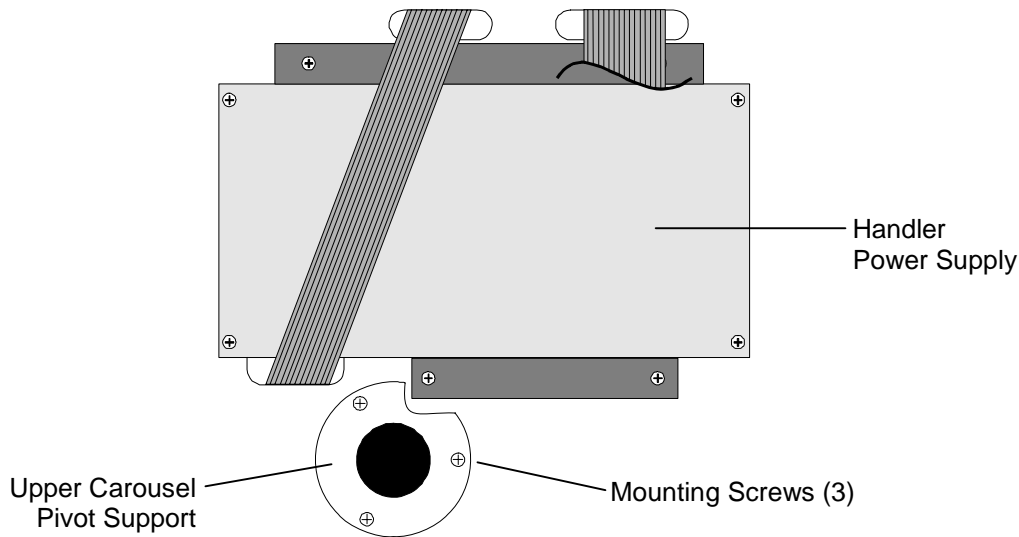
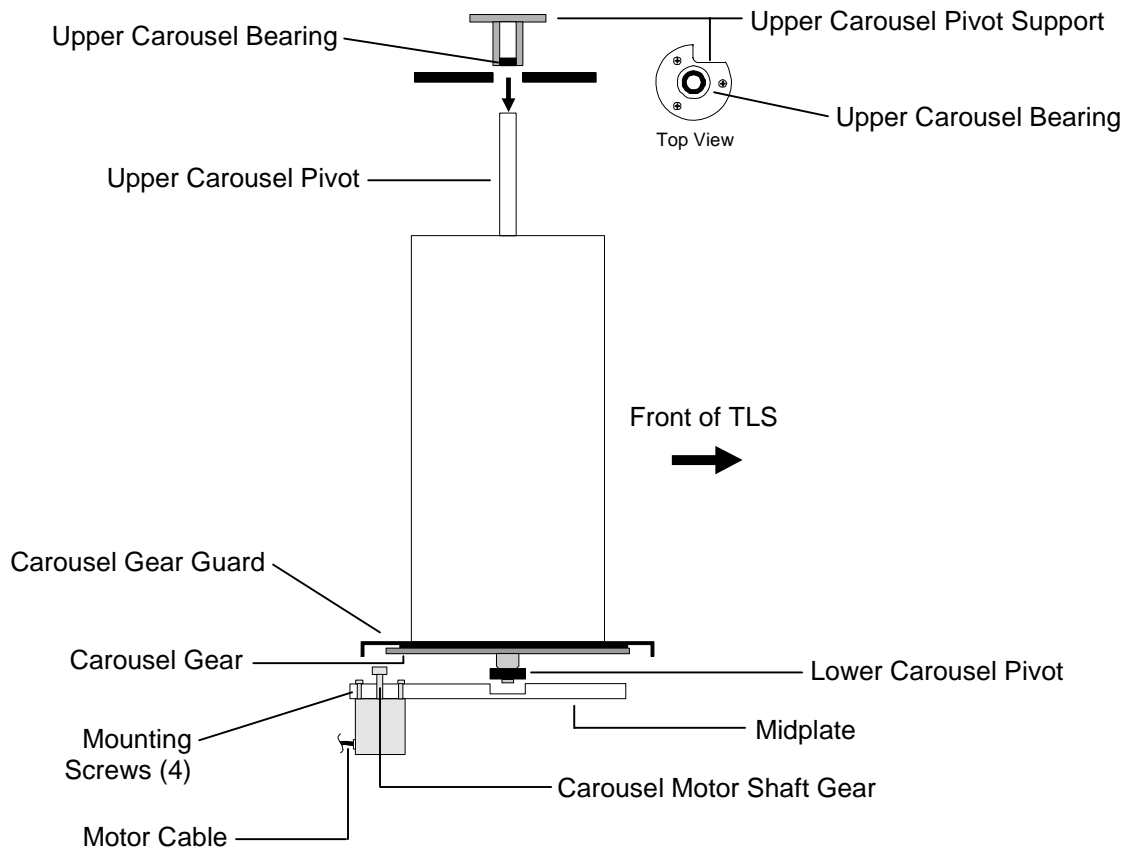

Figure 7-69 Single Bay TLS Top View – 62xx Shown
Figure 7-70 Single Bay Carousel Assembly
7. Use a number 2 Phillips screwdriver to remove all three mounting screws from the Upper Carousel Pivot Support (Figure 7-69), then lift the Upper Carousel Pivot Support up out of the TLS (Figure 7-70).
- a) For TLS series 62xx and 82xx, lift the Carousel up until the Lower Carousel Bearing clears the Midplate, then move the Carousel about four inches forward, then about one inch toward the left side of the cabinet, to gain access to the Carousel Motor's mounting screws (Figure 7-70).
- b) For TLS series 54xx, 64xx and 84xx, lift the Carousel up until the Lower Carousel Bearing clears the Midplate, then move the Carousel about three inches toward the right side of the cabinet, to gain access to the Carousel Motor's mounting screws (Figure 7-70).
12. Use a 3/32-inch Allen wrench to remove all four Carousel Motor mounting screws (Figure 7-70).
1. Align the mounting holes in the Carousel Motor with the corresponding mounting holes in the TLS' Midplate. For TLS models 62xx and 82xx the motor's cable faces the rear of the TLS and for the 54xx, 64xx and 84xx models the motor's cable faces the left side of the TLS (Figure 7-70).
5. Align the lower Carousel Bearing with the TLS Midplate, then lower the Carousel down into place (Figure 7-70). Be sure to align the Carousel Gear with the gear on the Carousel Motor shaft as you lower the Carousel into position.
6. Align the Upper Carousel Bearing with the Upper Carousel Pivot Support, then lower the Upper Carousel Pivot Support down through the top of the TLS onto the Upper Carousel Pivot (Figure 7-70).
7. Align the mounting screw holes in the Upper Carousel Pivot Support with the mounting screw holes in the TLS, then use a number 2 Phillips screwdriver to install all three Upper Carousel Pivot Support mounting screws (Figure 7-69).